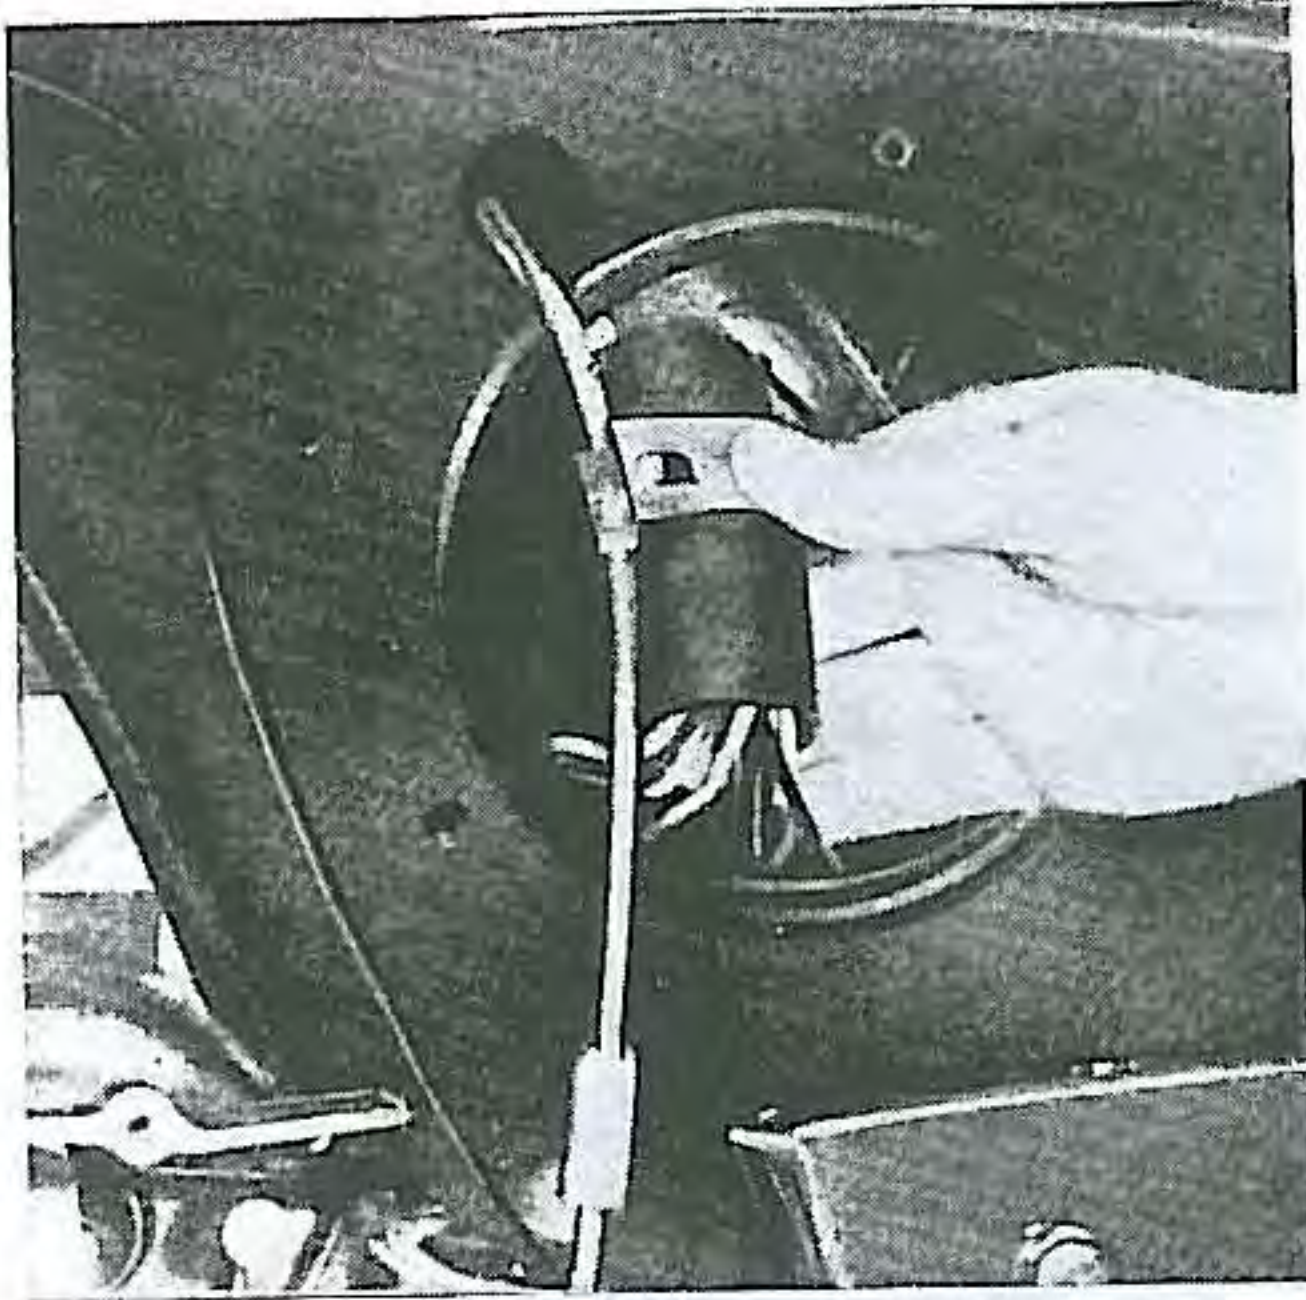
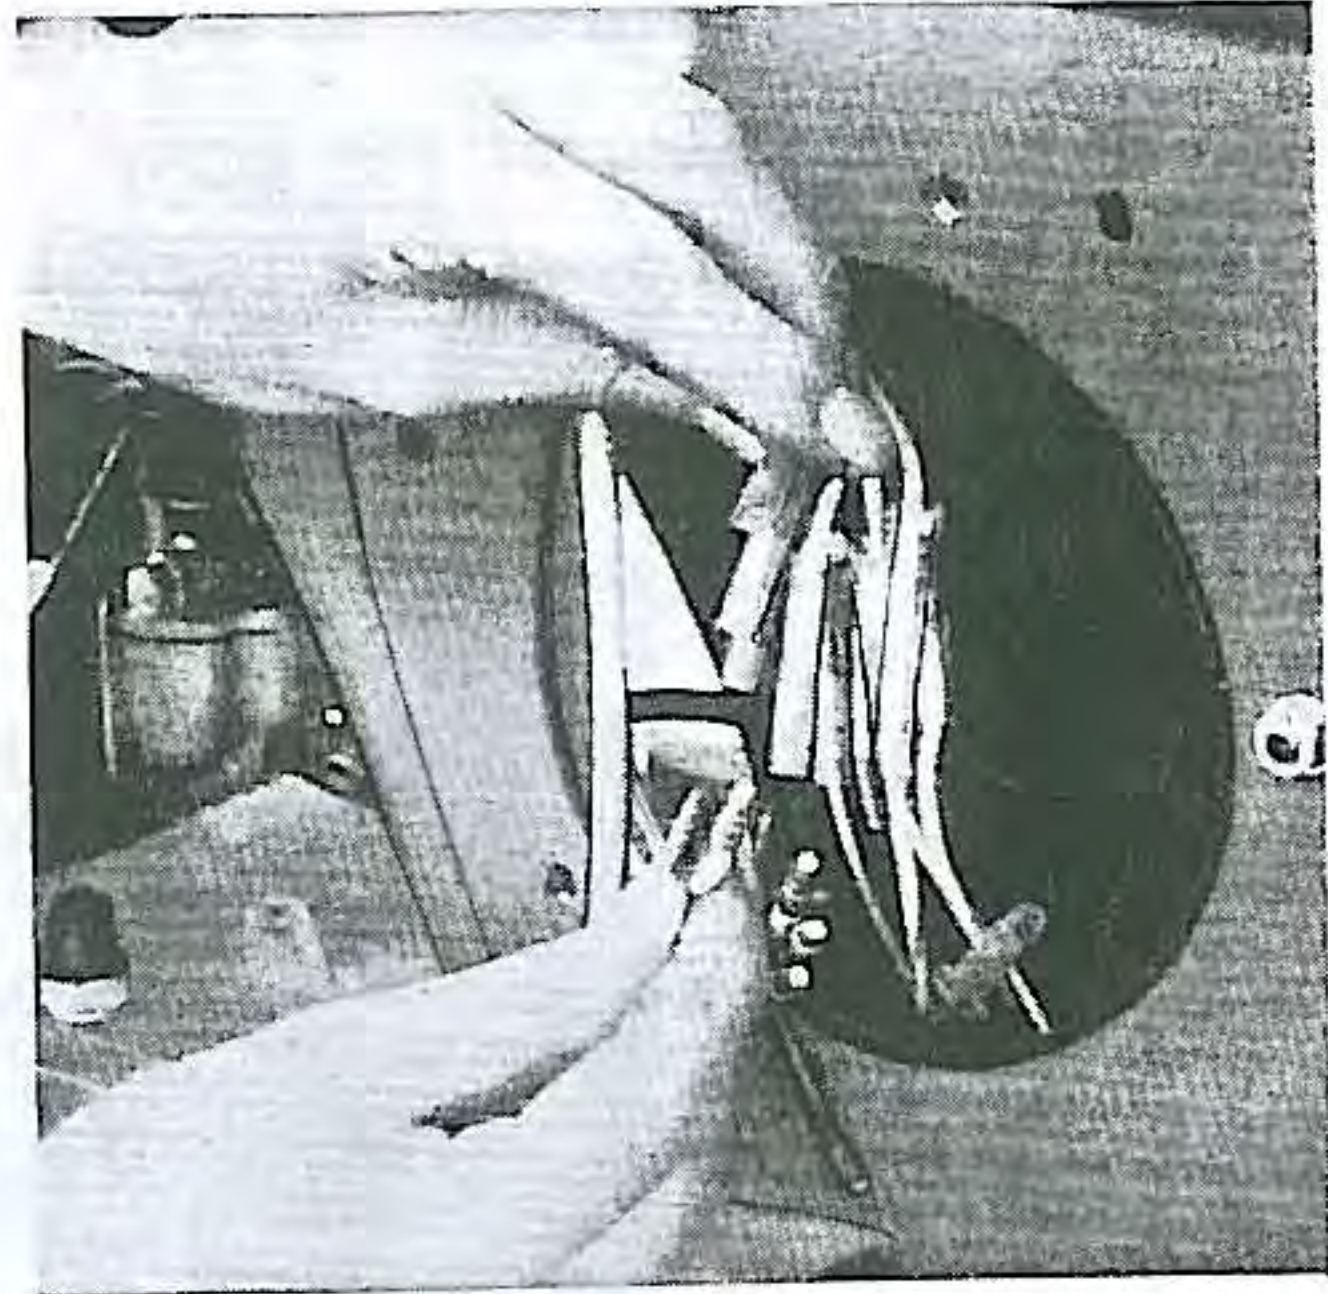

Fig. 10. Releasing wire harness holder clamp
Fig. 11. Disconnecting wiring
- (5) Unscrew the wire harness holder nut and release the clamp (Fig. 10) and disconnect all the wiring. (Fig. 11)